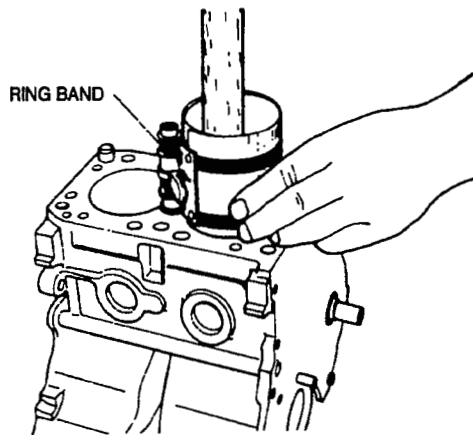

FIGURE 9-52 INSERTING PISTON
6. Compress the piston rings with a ring band and insert the piston and connecting rod assembly while lightly pushing the top of the piston (Figure 9-52).